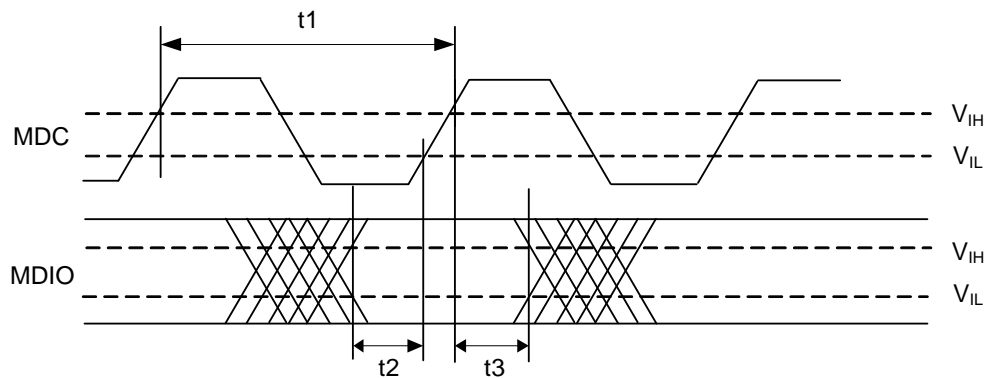

Figure 23. MDIO Sourced by Master (MAC)
- The timing characteristics t_1 , t_2 , and t_3 (Figure 23) of the Master (MAC) are provided by the Master when the Master sources the MDIO signal (Write command)